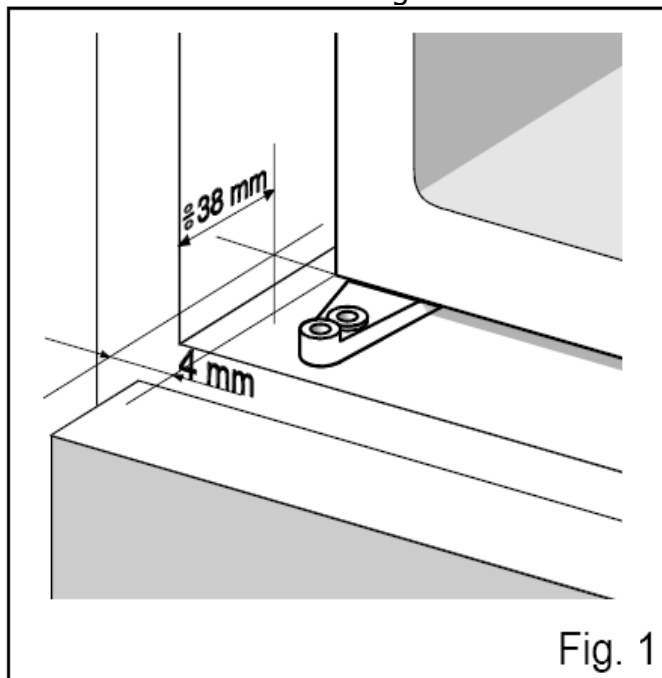

Fig. 1
2) After removing the rear wall of the cabinet, push the appliance into the kitchen unit's space and allow at least 4mm free space on both sides between the appliance and the side walls of the kitchen unit (Fig.1, at right). Allow 38mm space between back of the fridge and the wall.